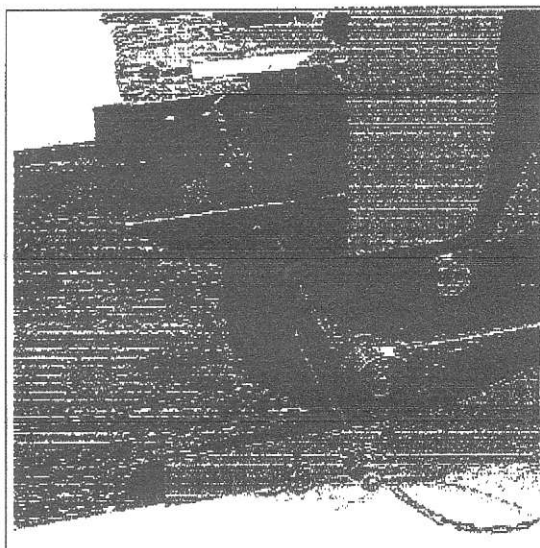

Fig. 20 Portable Lifter Interlock Pin in Place
- 2) Place the circuit breaker on the lifter bucket and lock in place with the interlock pin (Fig. 20).